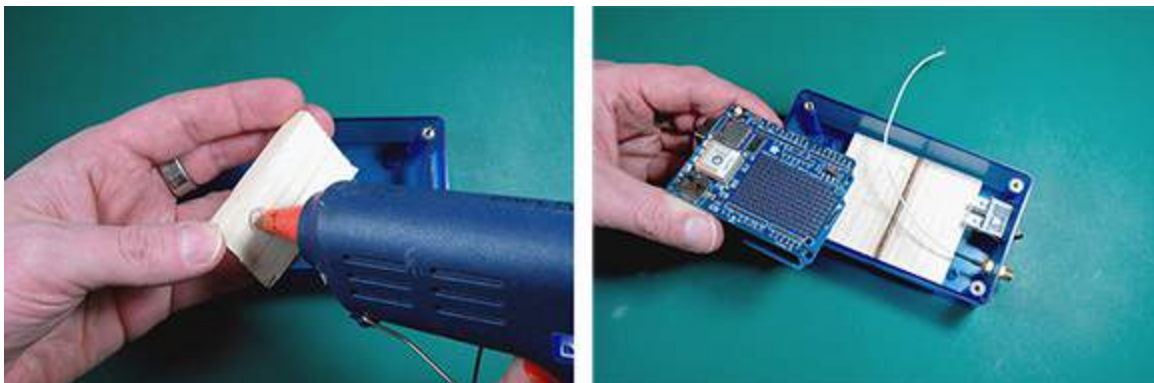

Figure 13-14: Positioning your Arduino and gluing your wood on the enclosure.
You need your hot glue gun for this part, so plug it in and allow it to warm up while you do the following steps, referring to Figures Figure 13-11 through Figure 13-14:
- 7. Use your hot glue gun to apply glue to the wood and press it firmly into the bottom of the enclosure. See Figure 13-14.**